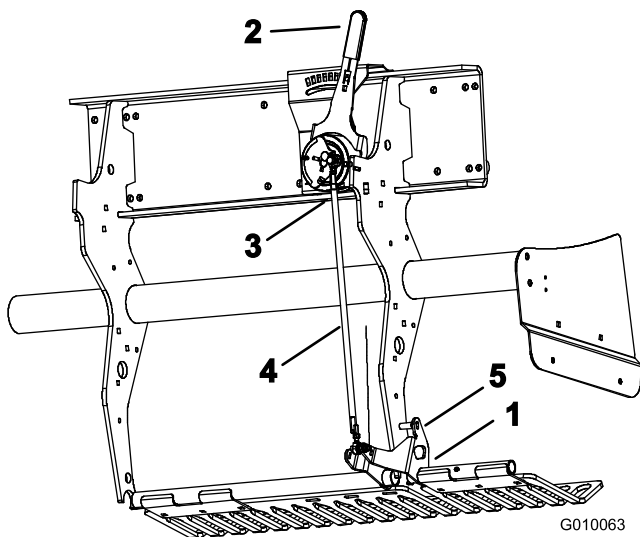

Figure 59
1. Rotate the LH turf guard mounting bracket (Figure 59) up until a locking pin (5/16 drill rod or bolt) can be inserted between the bracket and the depth setting tube welded to the frame.
2. Move the tine depth lever (Figure 59) to the H setting (deepest).
3. Disconnect the outboard ball switch (Figure 59) from the wire harness (Head–Low switch).
4. Loosen the jam nuts (LH and RH) on the depth adjustment tie rod (Figure 59).